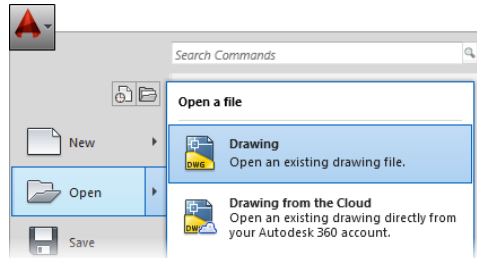

FIGURE 1.24: Opening an existing drawing from the Application menu
2. To open an existing file from the Application menu, choose Open > Drawing, as shown in Figure 1.24.